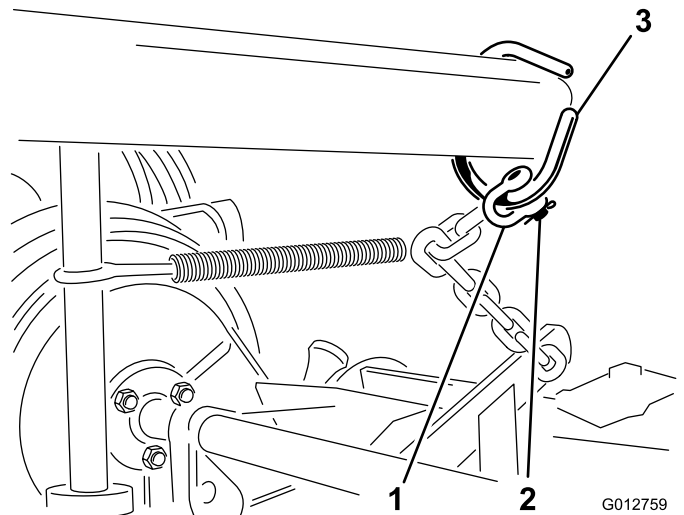

Figure 14
3. Secure short lift chains to No. 4 and No. 5 lift arms (rear) with short shackles, clevis pins and cotter pins (Figure 14). Secure to welded ring.